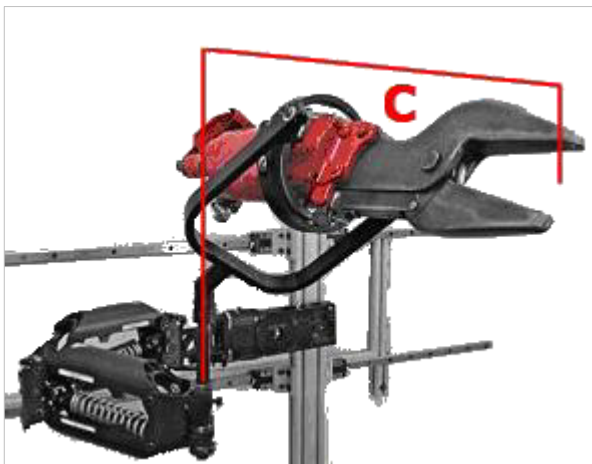

Figure 3 Span C
6. Note the horizontal reach of the tool, gimbal, and post assembly (span C, Figure 3). _____